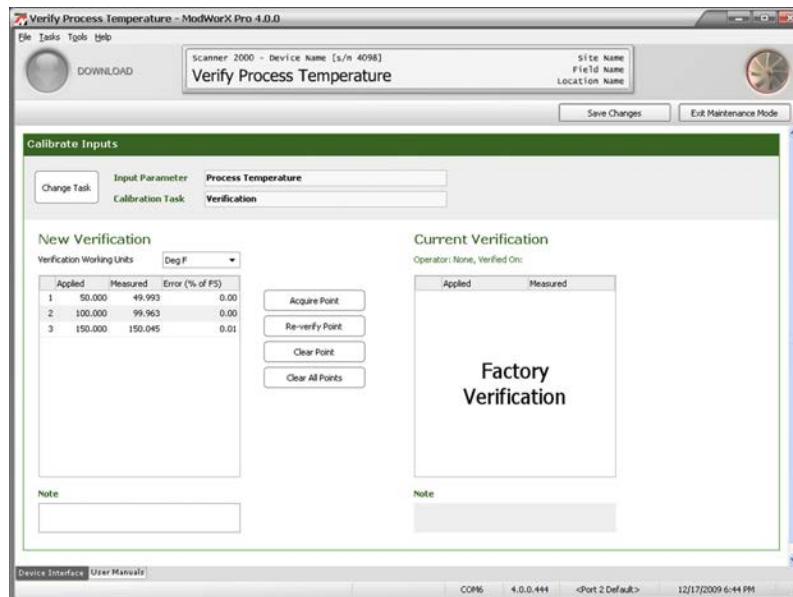

Figure 8.23
- When a measured value is indicated, click **OK** to save the verification and return to the Verify Process Temperature screen (Figure 8.23). The New Calibration table is updated with the applied temperature, the measured temperature, and a percentage of error. The percentage of error is expressed as a percentage of full scale, and is calculated with respect to the applied value.